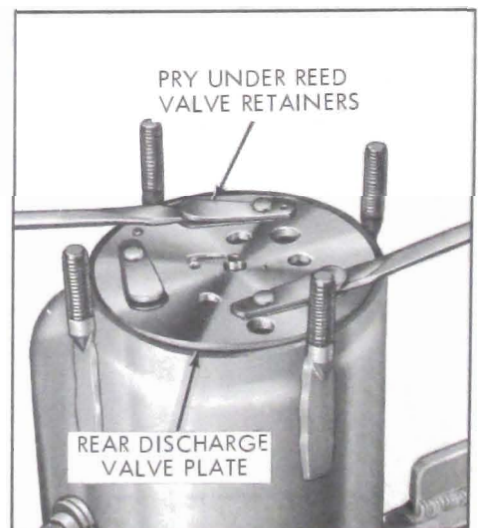

Figure 11-61—Removing Rear Discharge Valve Plate
16. Carefully remove rear discharge valve plate assembly by prying up on assembly as shown with screwdrivers and examine discharge valve reeds and seats. See Figure 11-61. Replace entire assembly if excessively scored or if any one of the three reeds is broken or seats are damaged.